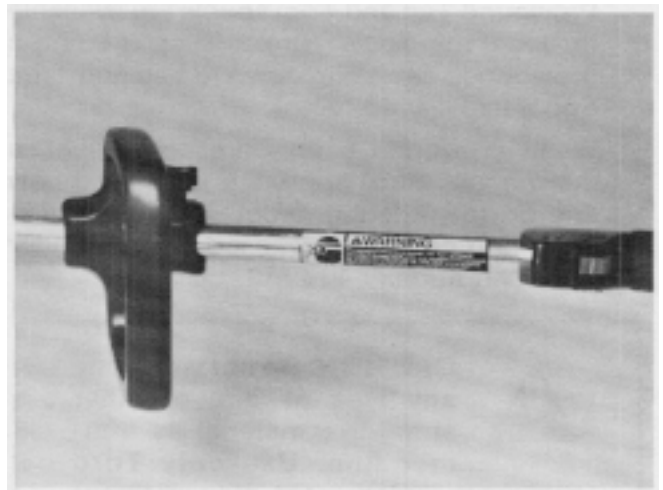

Figure 110
6. Ensure that the eye protection safety decal is applied to the drive shaft in its proper location. See Fig. 110.